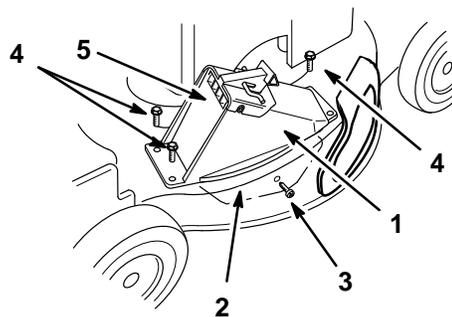

Figure 34
- Grommet (4)
- Insert the tongue of the discharge tunnel into the mower (Fig. 34).
- Align the holes in the tunnel with the grommets in the mower (Fig. 34).
- Ensure that the hole in the tongue aligns with the hole in the side of the mower (Fig. 34).
- Bolt (3)
- Install the self-tapping plastite screw supplied with the grass catcher into the side hole and tongue, and partially tighten the screw (Fig. 34).
- Using three screws supplied with the grass catcher, fasten the discharge tunnel to the mower (Fig. 34).
13. Open and close the tunnel door to ensure that it moves freely (Fig. 34).